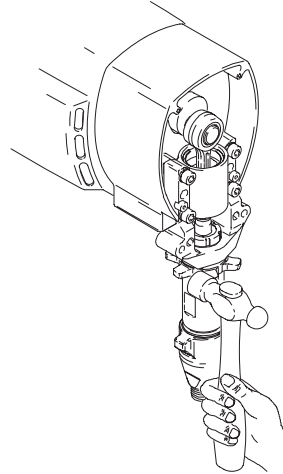

Fig. 22
5. Fig. 22. Loosen locknut by hitting firmly with a 20 oz (maximum) hammer. Unscrew pump.